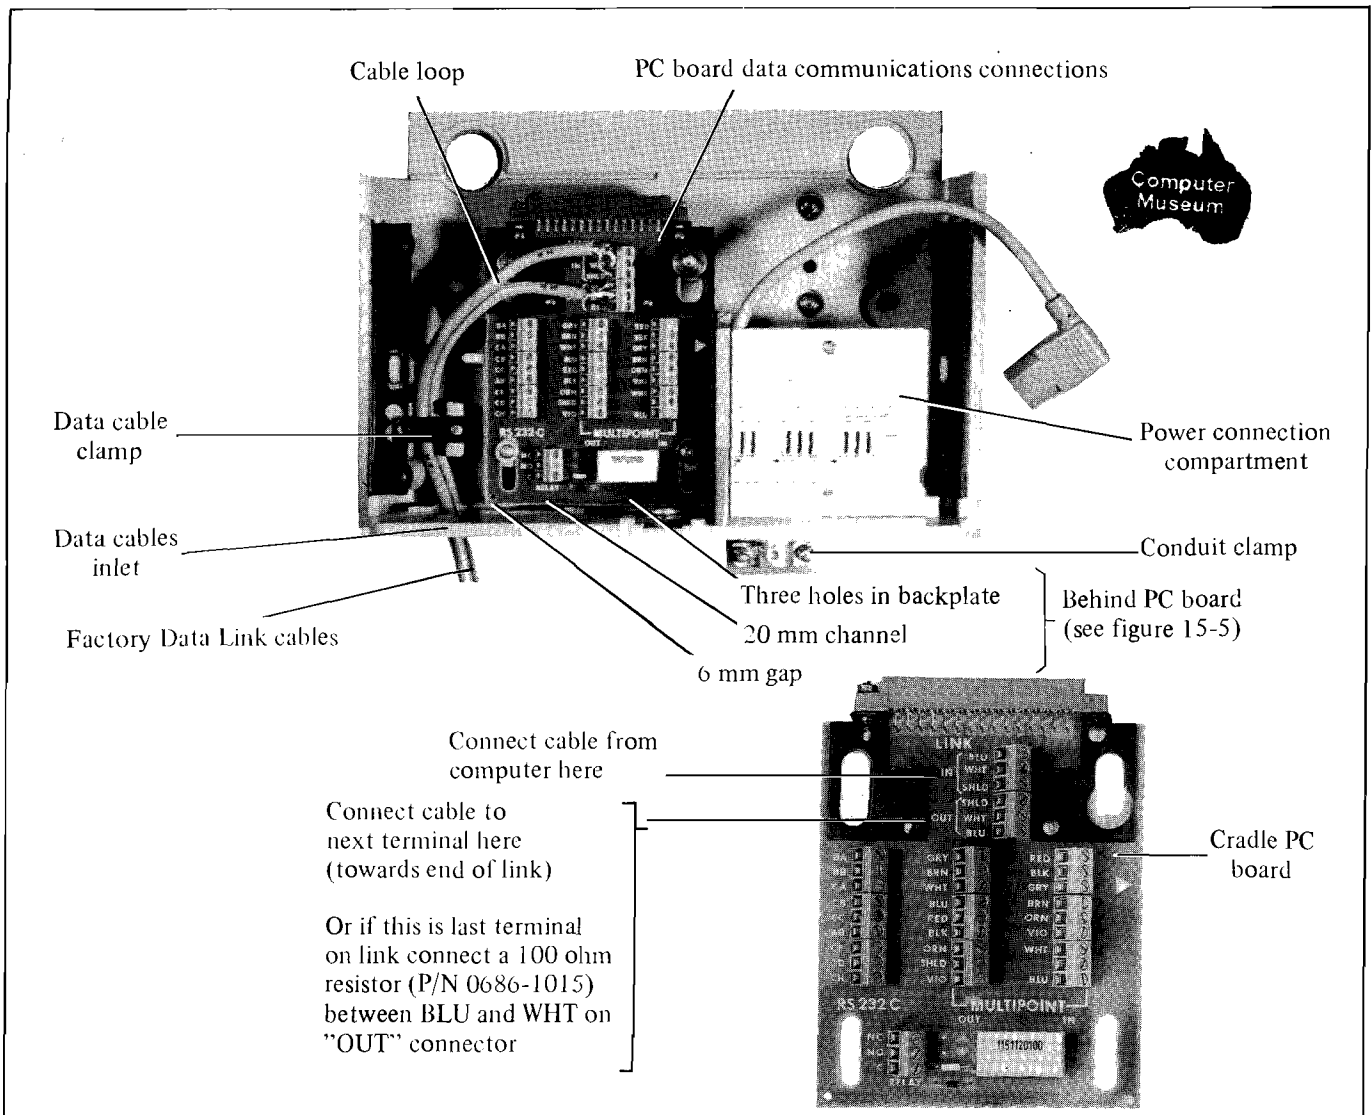

Figure 15-11 Factory Data Link Cradle Connections
- 4) Within the base, slacken the data cable clamp (see figure 15-11).
- 7) Connect the Factory Data Link cable(s) to the screw connector labelled LINK at the top of the printed circuit data communications board (see figure 15-11). The wires within the Data Link cable are color coded and should be attached to the indicated connector. The cable from the previous terminal/connection box must be attached to the screw connector labelled LINK IN. The cable going out to the next terminal must be attached to the screw connector labelled LINK OUT.
Note: Ensure that the Data Link cable(s) has a loop (see figure 15-11). This is necessary because when a terminal is installed the printed circuit board must be able to move upwards to mate with the terminal 30-pin connector.
- 3) The cable(s) should be routed to the data cable clamp via the 20 mm (0.79 ins.) wide channel at the base of the cradle and through the 6 mm (0.24 ins.) gap at the left-hand side of the channel. See figure 15-11.